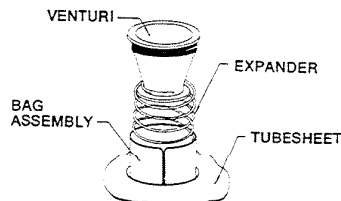

FIG. 7
3. Snap the expander spring into the lower portion of the venturi as shown in Figure 7.